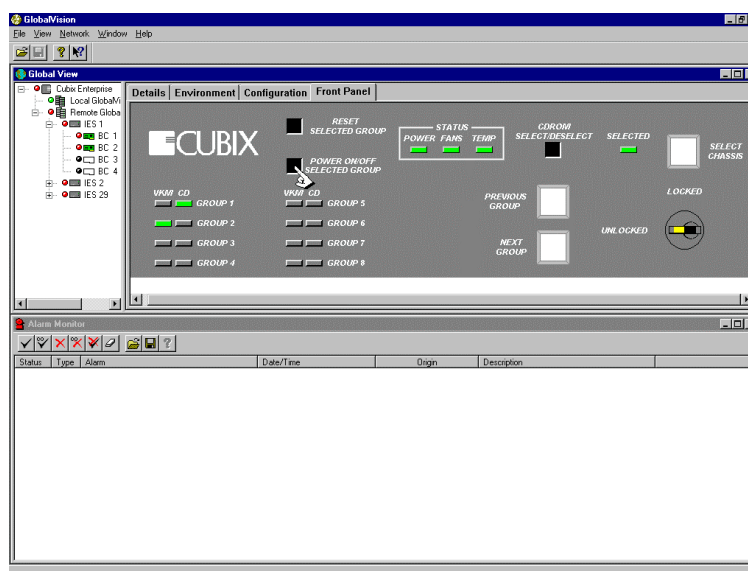

Figure 127 – POWER ON/OFF SELECTED GROUP button
The POWER ON/OFF SELECTED GROUP button is used to power on or off an individual group(s). The POWER ON/OFF SELECTED GROUP button is a small black square button. It is located on the left side of the FRONT PANEL tab, above the VKM CD LEDs. See Figure 127.
2. Use the PREVIOUS GROUP or NEXT GROUP buttons to select the group you want to be powered off. Check Figure 127 for location.